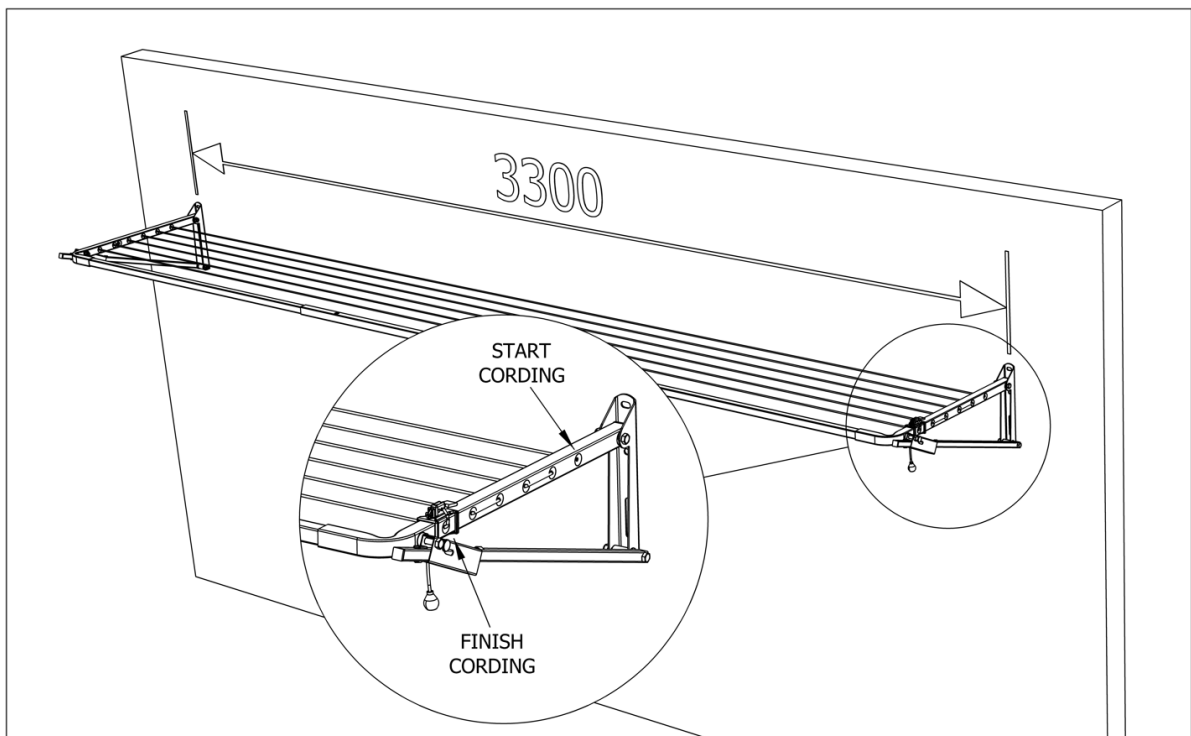

Fig 1. Slenderline 20 installed to wall / Cord start stop positions.
7. Start cording at the rear right-hand hole, tie a knot in the cord to stop it pulling through. (Fig.1)
8. Working across and toward the front of the clothesline finish at the Line Tension Lock (L.T.L.) front right. (Fig.1)